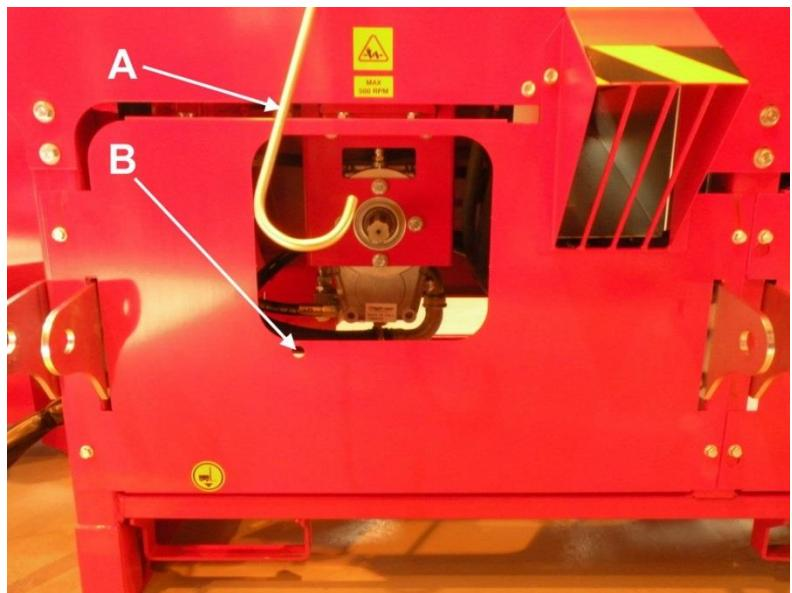

Figure 5
- Lift the conveyor with the winch until it locks into the raised position. Ensure that lock A (Figure 5) settles properly into place.
When using the cardan shaft, observe any instructions provided by the manufacturer of the shaft. The machine requires 7.5 kW of power, which must be taken into account with regard to the capacity of the cardan shaft. A suitable cardan shaft is of power class four. Make sure that the connected shaft is locked to the splined shaft of the multiplier gear. Connect the chain that prevents the turning motion of the protective cover to slot B (Figure 5). Hang the cardan shaft from hook A (Figure 5) when the machine is not being operated and it is disconnected from the tractor. Finally, ensure that all connections are safe and secure. Never use a damaged or unprotected cardan shaft.